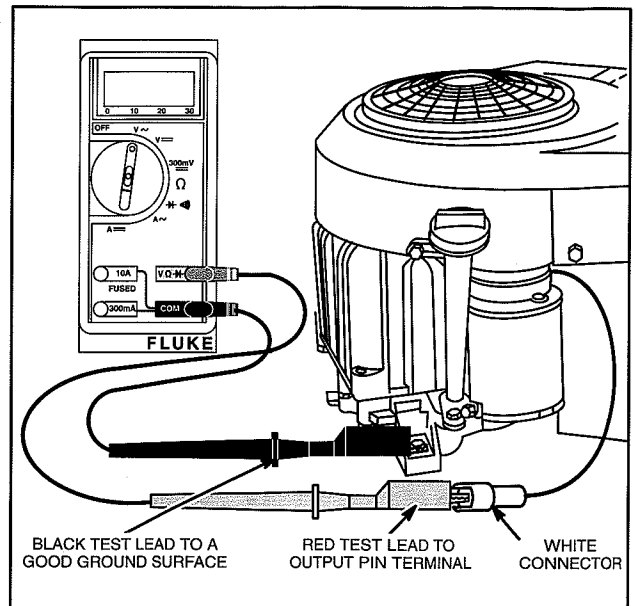

Fig. 11 – Testing AC Output
4. Attach RED test lead clip to AC output terminal, Fig. 11.